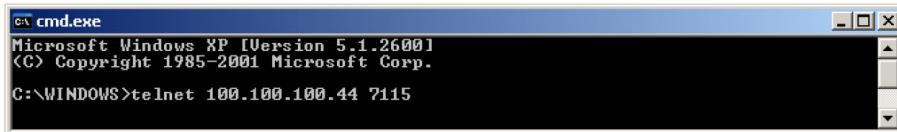

Figure 7.2: Telnet command
- Example (fig.7.2): if the camera's IP address is: 100.100.100.44, one would type: `telnet 100.100.100.44 7115`.